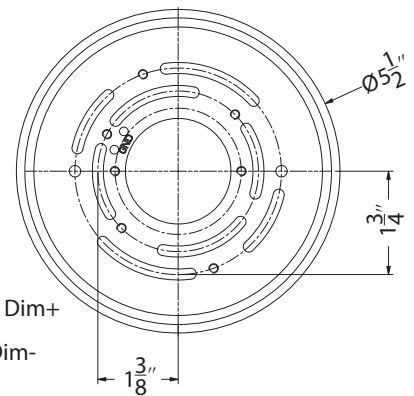

Fig.2 Wiring
CONNECTING THE WIRES (Fig. 2)
6. Connect the driver's input wires to junction box wires as shown (Fig. 2). Make sure that all wire connectors (A) are secure. If your outlet box has a green or bare copper ground wire, connect the driver's ground wire to it. Otherwise, connect the fixture's ground wire directly to the back plate using the screw provided. After wires are connected, tuck them carefully inside the junction box.